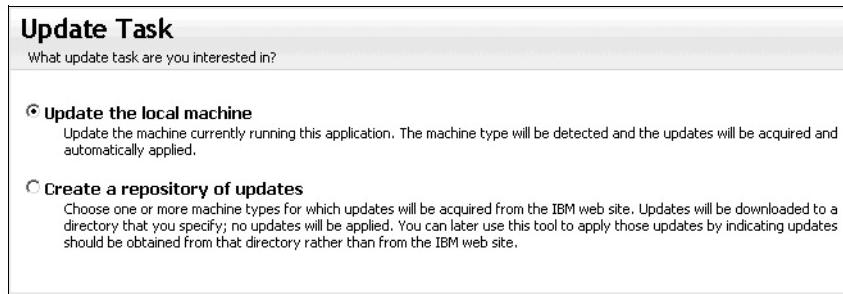

Figure 6-13 UXSPI Update Task panel
- Accept the **Update the local machine** default, as shown in Figure 6-13, and click **Next**.